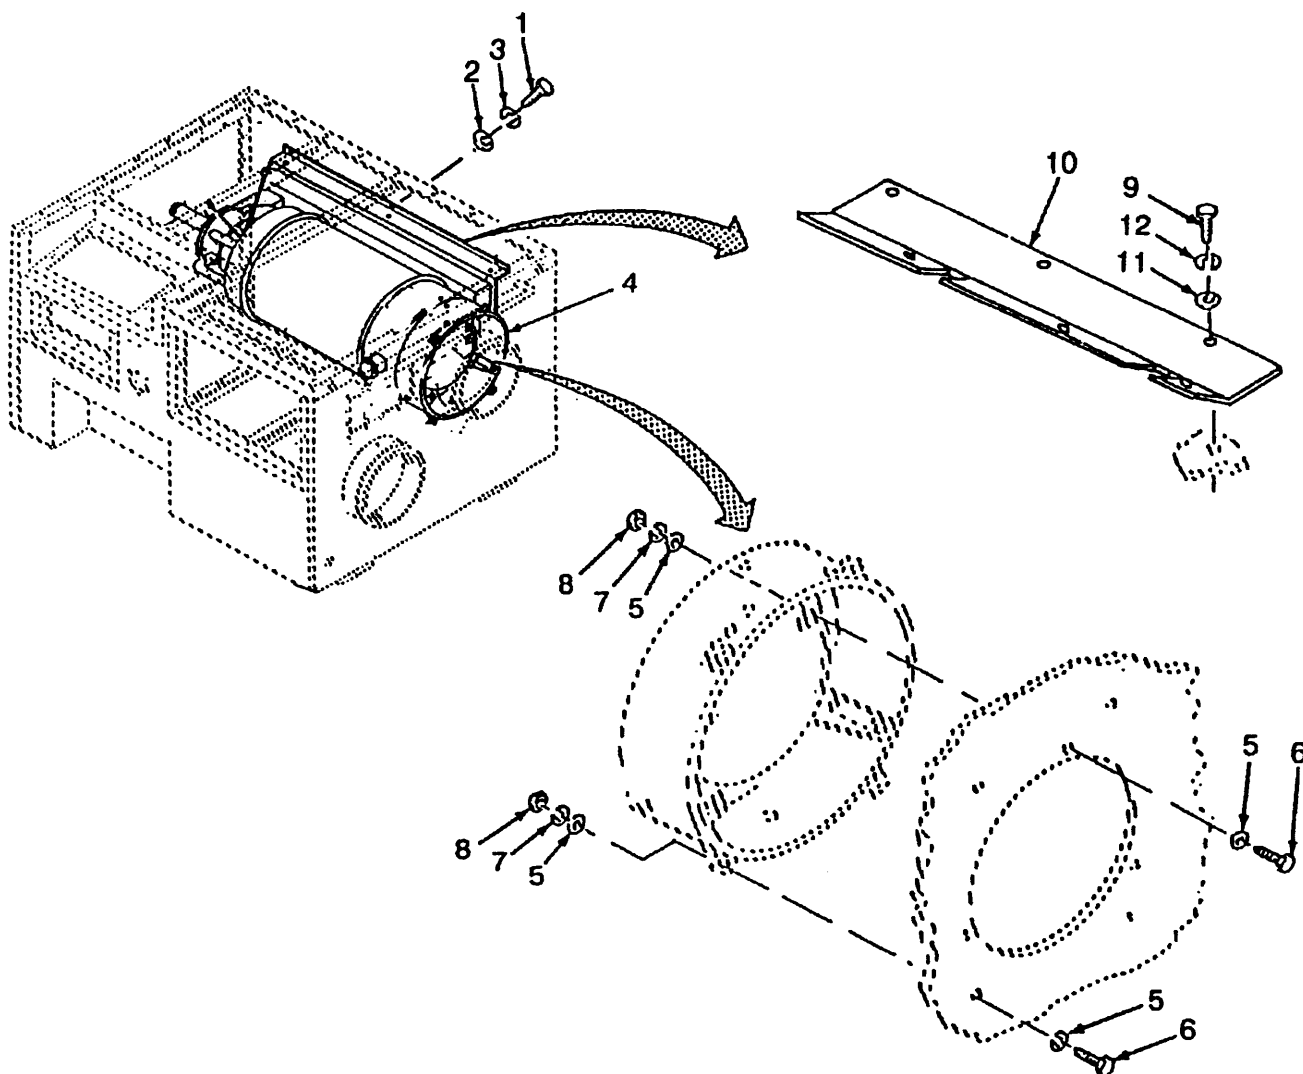

Figure 5-19.1. Heat Exchanger, (Model H120-1) Installation
f. Installation - continued (Refer to Figure 5-19.1)
- (5) Apply anti-seize compound (Item 3, App E) to six screws (1). Install six flat washers (2), six lockwashers (3), and six screws (1). Hand tighten only.
- (6) Align the front mounting tabs on heat exchanger (4) with the front of unit.
- (7) Install fourteen flat washers (5), seven screws (6), seven lockwashers (7), and seven nuts (8).
- (8) Tighten all the hardware installed in steps (2) and (5).
- (9) Apply anti-seize compound (Item 3, App E) to six screws (9). Install heat exchange shield (10), six flat washers (11), six lockwashers (12) and six screws (9).